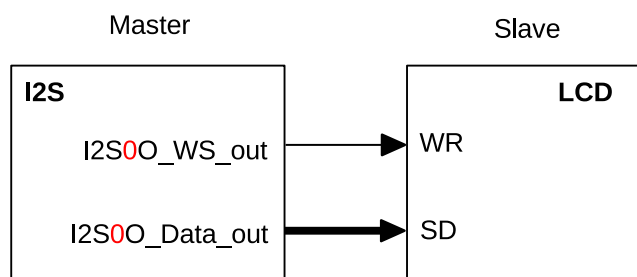

Figure 26-12. LCD Master Transmitting Mode
As shown in Figure 26-12, LCD WR signal is connected to I2S WS signal. The data width can be set to 8/16/24 bits (parallel), depending on the configuration of `I2S_TX_BITS_MOD[5:0]`.
2. Configure signal pins according to Table 149 and Figure 26-12.